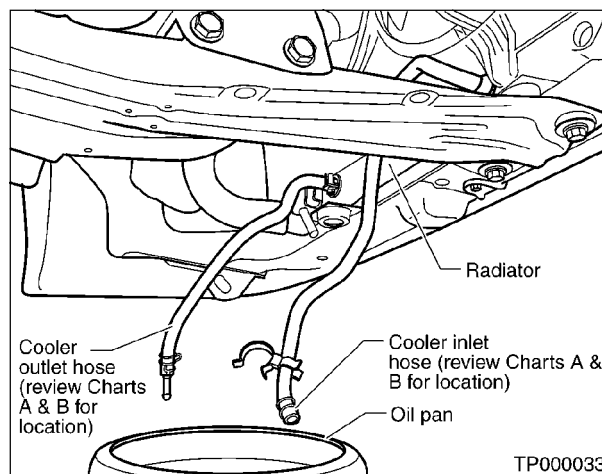

Figure 3
3. Disconnect the Oil Cooler Inlet and Outlet rubber hoses from the steel cooler tubes (see Figure 3).